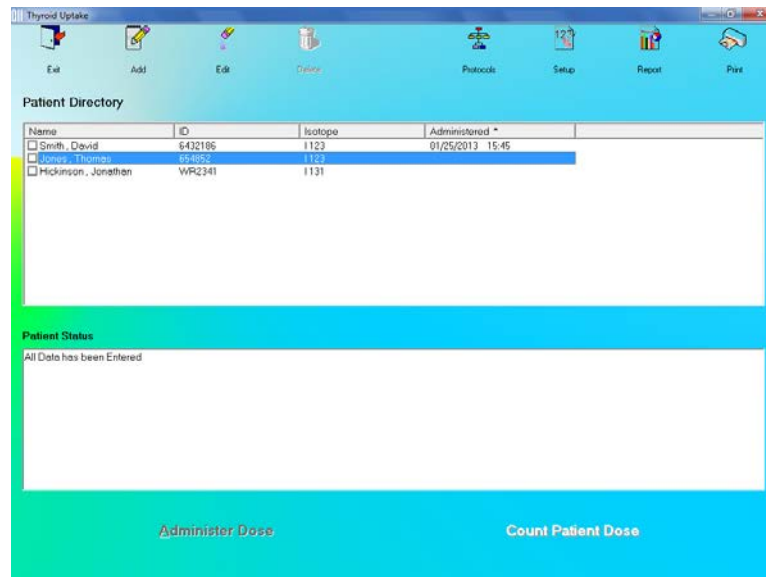

Figure 7-10
- To select a patient to be edited, use the ↑ ↓ keys or *Page Up* and *Page Down* keys to move up or down in the patient list. If the list is long, the scroll bar is also available. To reach a particular patient, press the first letter of the patient name. Press the ↓ key if necessary, to go further down (Figure 7-10).